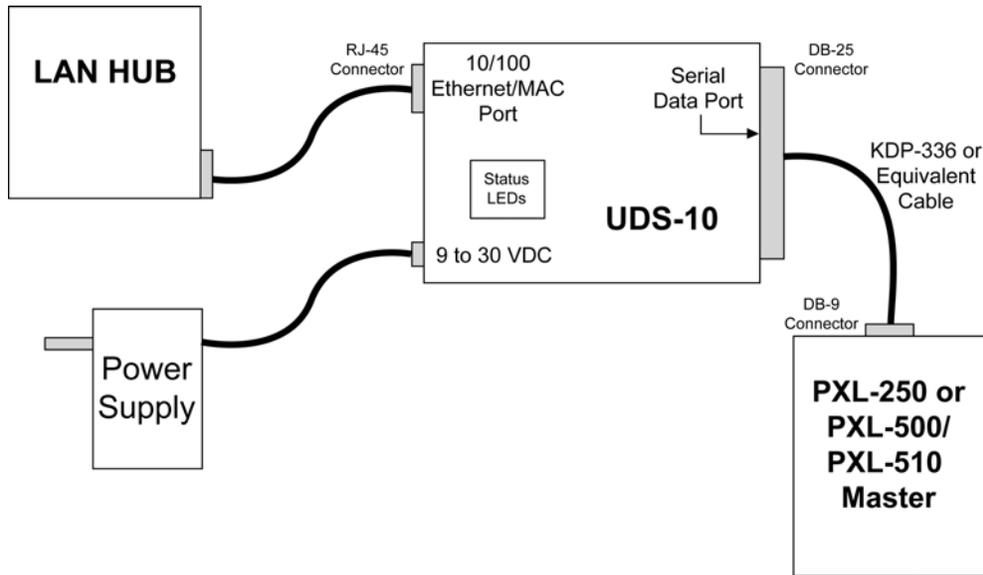

Figure 2: LAN-50 Connection Diagram
3. Connect the power supply's 12 VDC power jack to the power connection on the LAN-50. Plug the power supply into a 110 VAC socket (see Figure 2 on page 6).